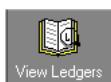

Figure 16-5. View Ledgers button
1. Click the **View Ledgers** (Figure 16-5) button in the **Rule** listbar, select **View Ledgers** from the **Rule** menu.